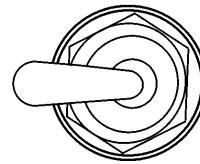

Figure 21. Pumping Control Switch (Remote)
2. On the control box, place the pumping control switch in the REMOTE ON position (Figure 21).